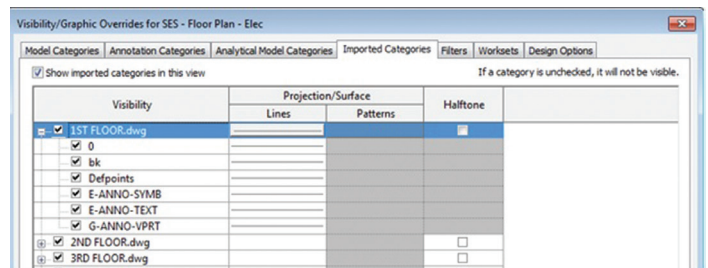

Figure 3
15. Layers can also be turned off inside Visibility Graphics, Imported Categories, and subcategories (layers) under the AutoCAD file (see Figure 3).